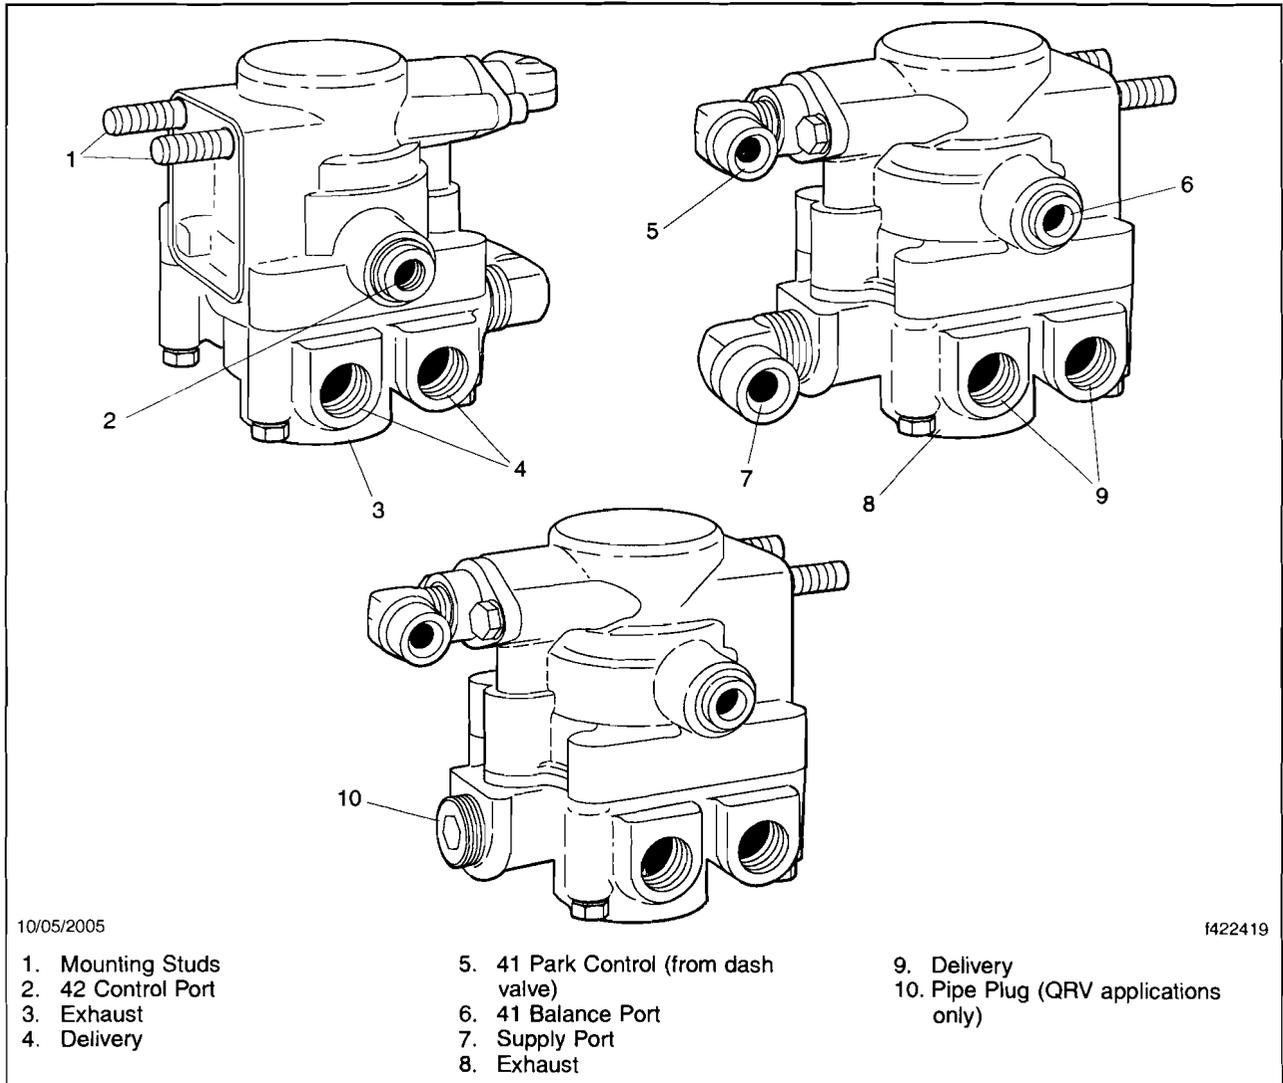

Fig. 3, SR-7 Spring Brake Modulating Valve (exterior views)
- 7.3 Remove one line from a delivery port of the SR-7 valve and install a test gauge that is known to be accurate. See **Fig. 3** for the port locations.